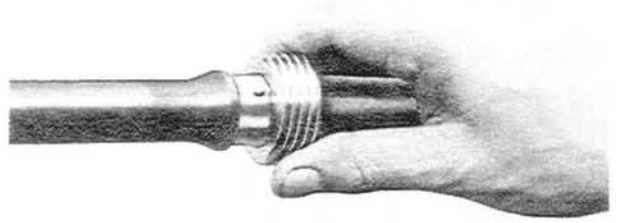

Fig. 7-26 Installing of speedometer drive gear
25. Install the speedometer drive gear with the steel ball onto the main shaft and secure it with the snap ring as shown in Fig. 7-26.